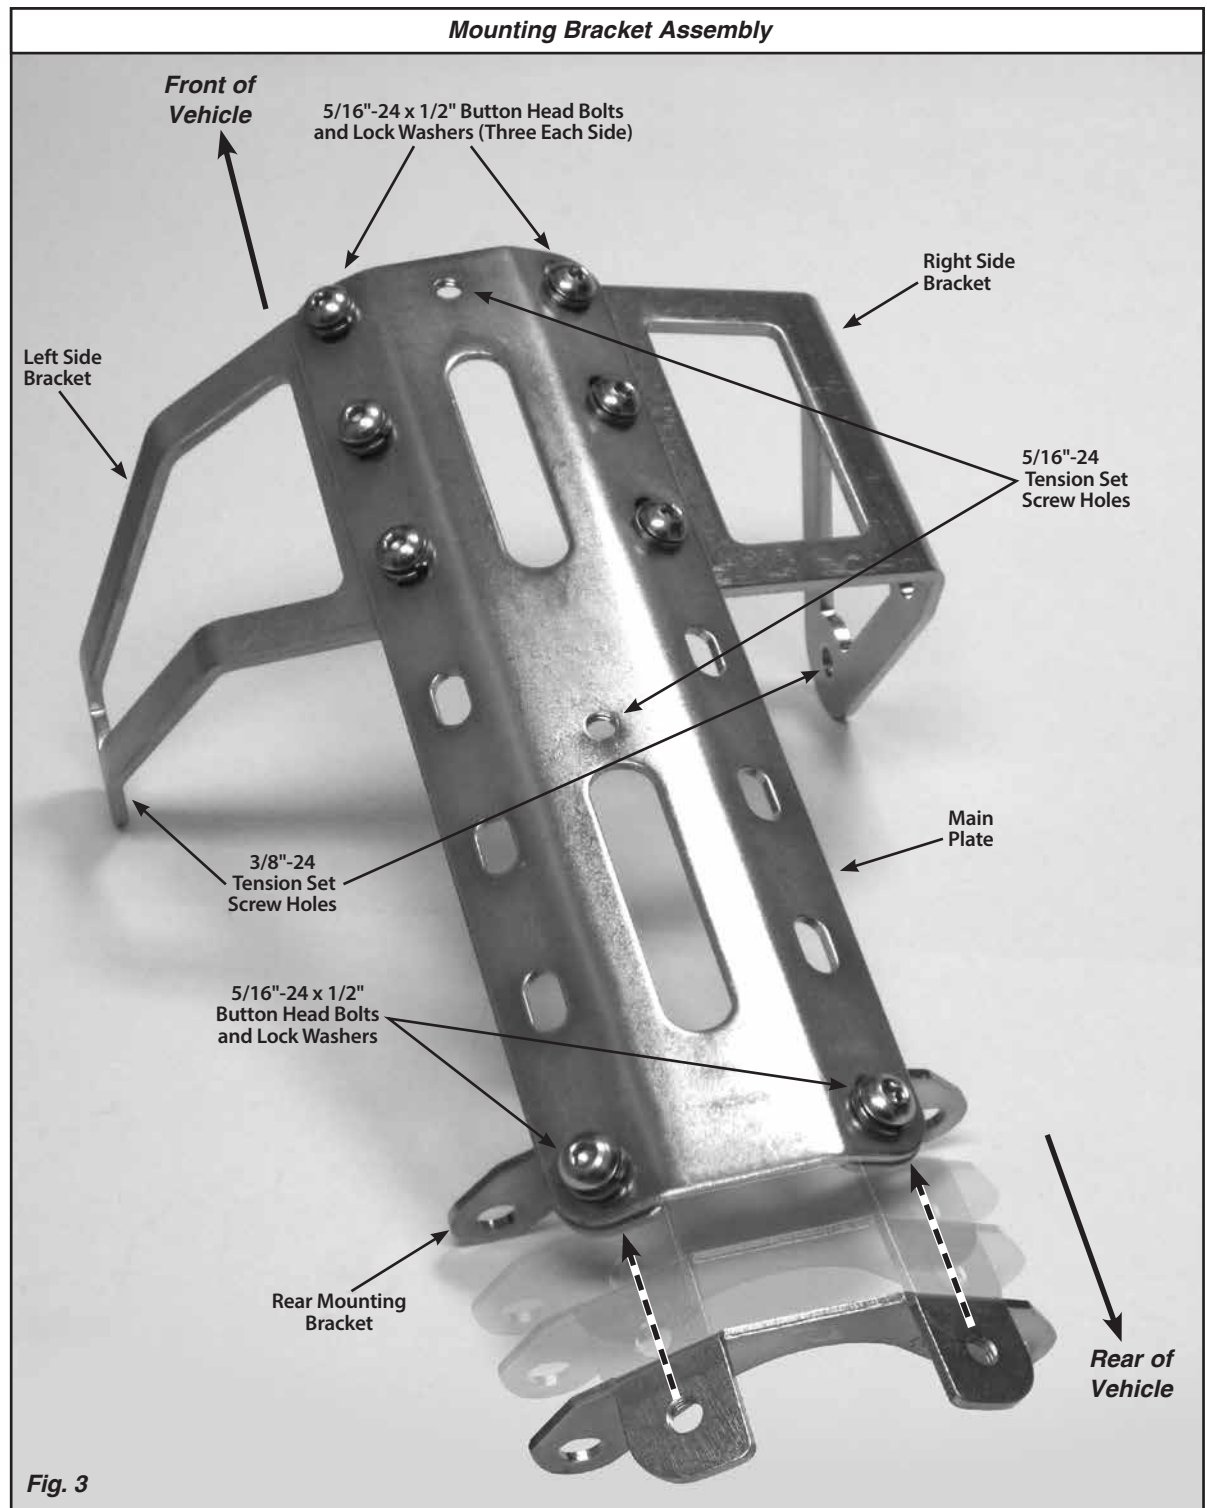

Fig. 3
- The left side bracket and right side bracket bolt directly to the main plate. Attach the side brackets to the underside of the main plate as shown in **Fig. 3**, using three 5/16"-24 x 1/2" button head bolts and lock washers on each side. **DO NOT TIGHTEN AT THIS TIME.**
- Step 4:** Attach the rear mounting bracket to the underside of the main plate with the bracket ears pointing to the rear of the transmission (toward the rear axle) as shown in **Fig. 3**, using two 5/16"-24 x 1/2" button head bolts and lock washers. **DO NOT TIGHTEN AT THIS TIME.**